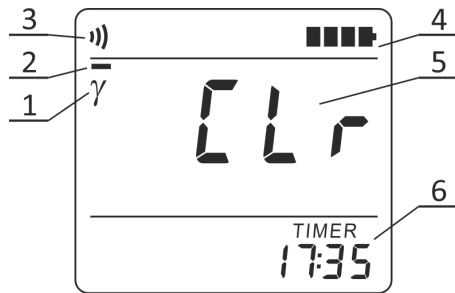

Figure 2.3 – LCD of the radiometer (measurement restart)
2.3.3.6.20 If THRESHOLD button is being held down for more than two seconds, the LCD displays the “Clr” symbols (Figure 2.3). This means that you can restart the measurement process.